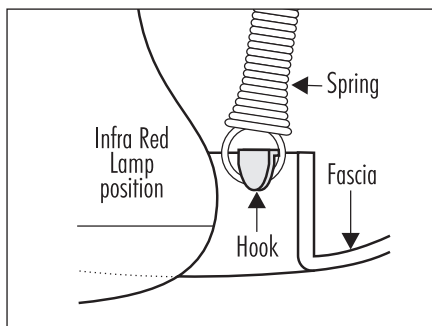

Fig. 11 – 12309, 11323 & 11325
1. Models 12309, 11323 & 11325 fit fascia into position and hook coil-spring onto fascia as per Fig. 11. Model 12310 has snap fit fascia, however the lamps and LED must be fitted in this model prior to the fascia. The legs of the lamp surround must rest freely on the ceiling. A clearance of approximately 3-5 mm should exist between the ceiling and outer rim of surround.